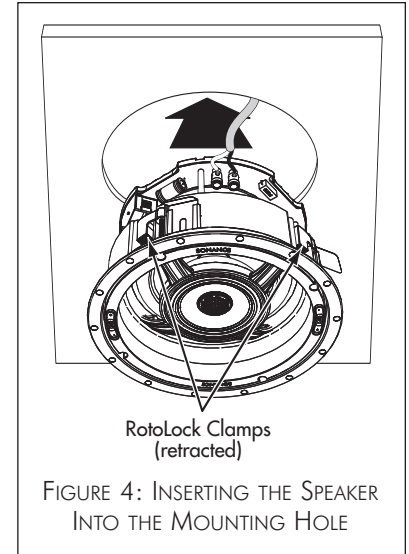

FIGURE 4: INSERTING THE SPEAKER INTO THE MOUNTING HOLE
4. Make sure all the RotoLock clamps are retracted so that they are tucked within the mounting hole's border. Insert the speaker into the hole in the ceiling (*Figure 4*, next column).